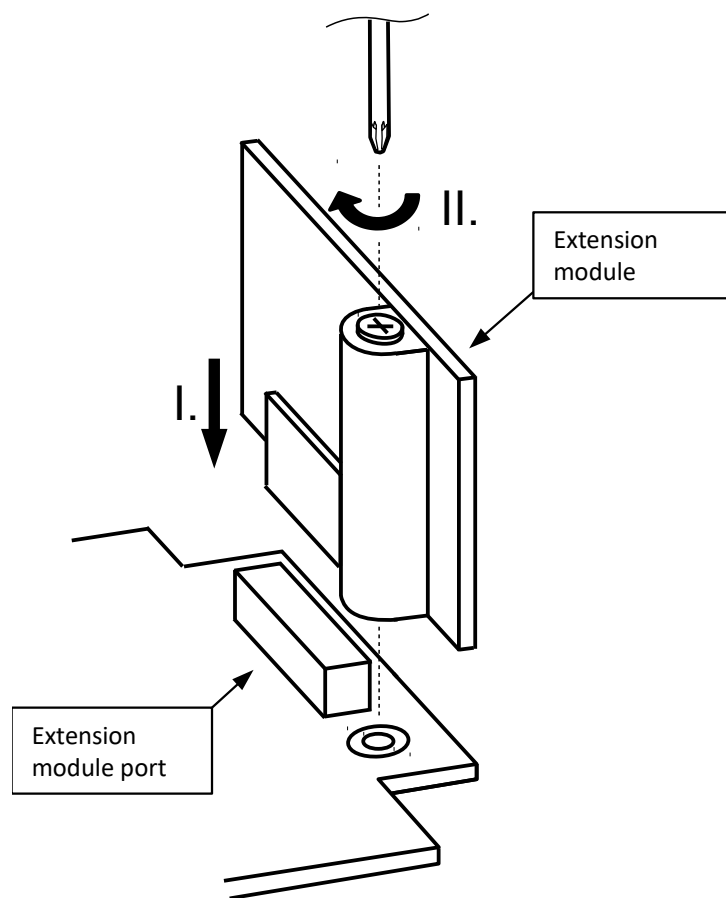

Figure 10: Installing the Extension Module
To install the Extension Module, take the following steps (see also figure 10).
4. Install the module in the Extension Module slot (see figure 2) – step I and II (figure 10).